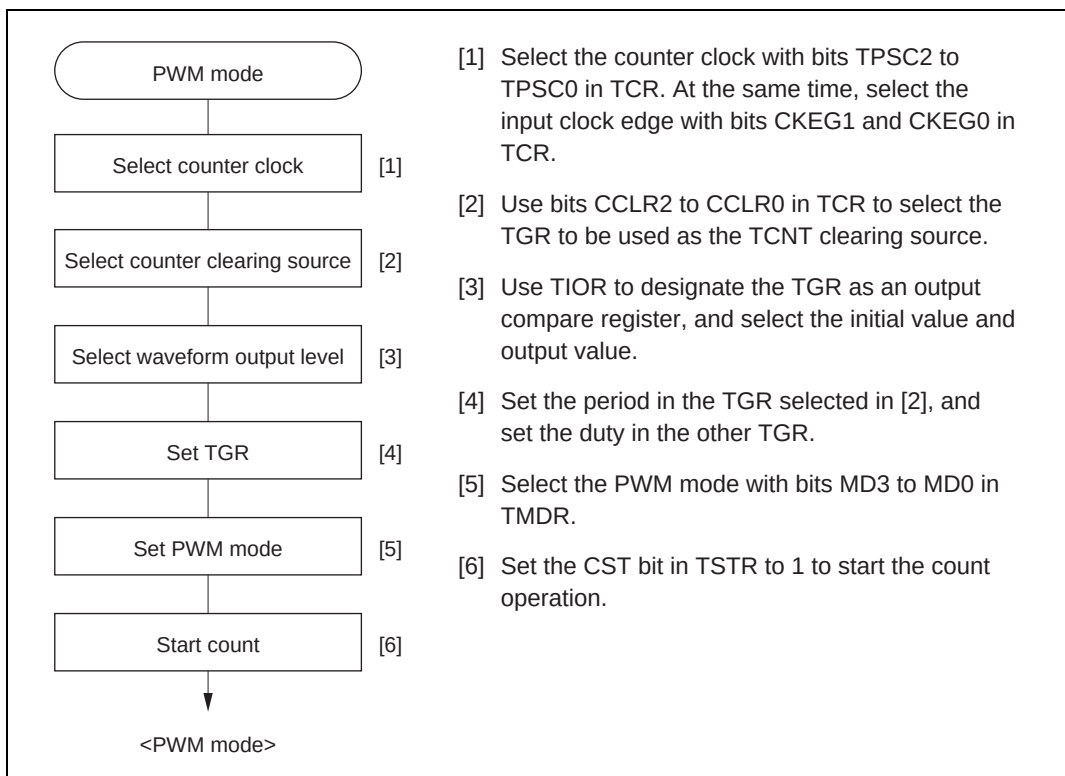

**Figure 9.24 Example of PWM Mode Setting Procedure**
**Example of PWM Mode Setting Procedure:** Figure 9.24 shows an example of the PWM mode setting procedure.